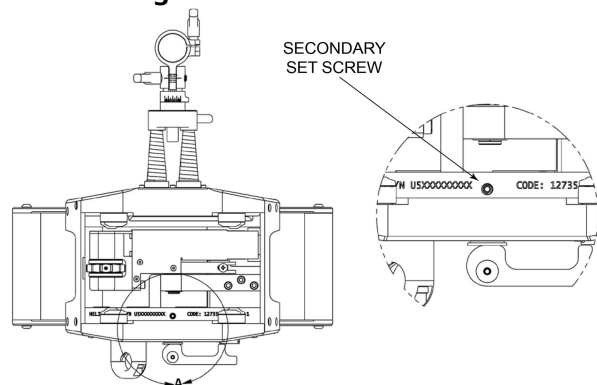

Figure 13 : Secondary Clamp Set Screw
3. Then loosen the secondary set screw on the underside of the HELIX M85 WELD HEAD, see Figure 13 : Secondary Clamp Set Screw on page A-9 .